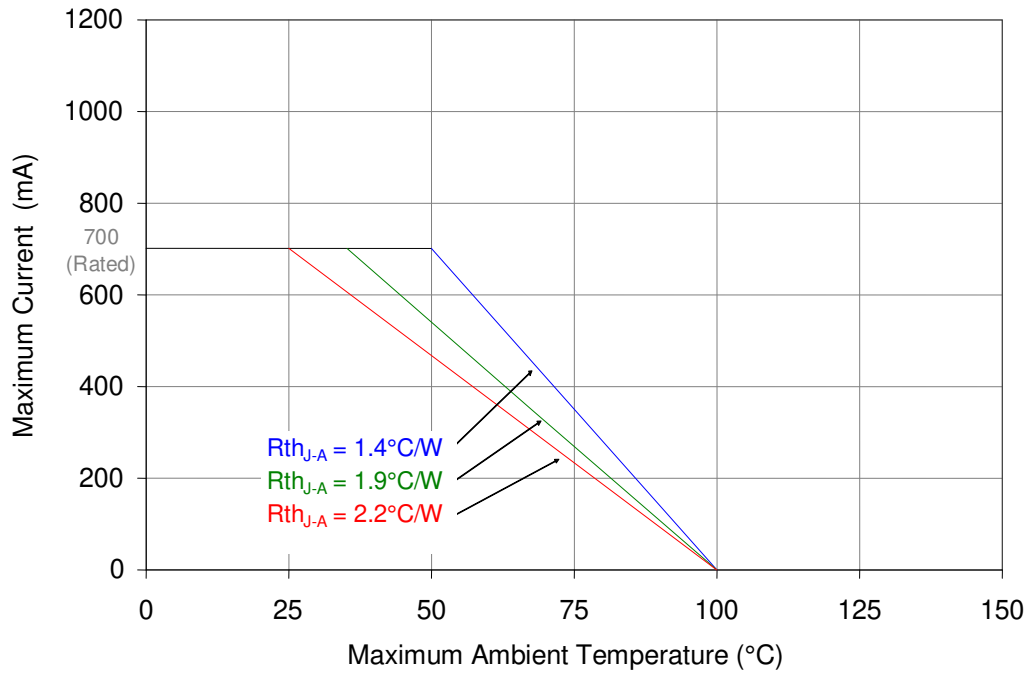

Figure 10: Maximum forward current vs. ambient temperature based on  $T_{J(MAX)} = 100^{\circ}\text{C}$ .
- Maximum DC forward current (per die) is determined by the overall thermal resistance and ambient temperature. Follow the curves in Figure 10 for current derating.
Notes for Figure 10: